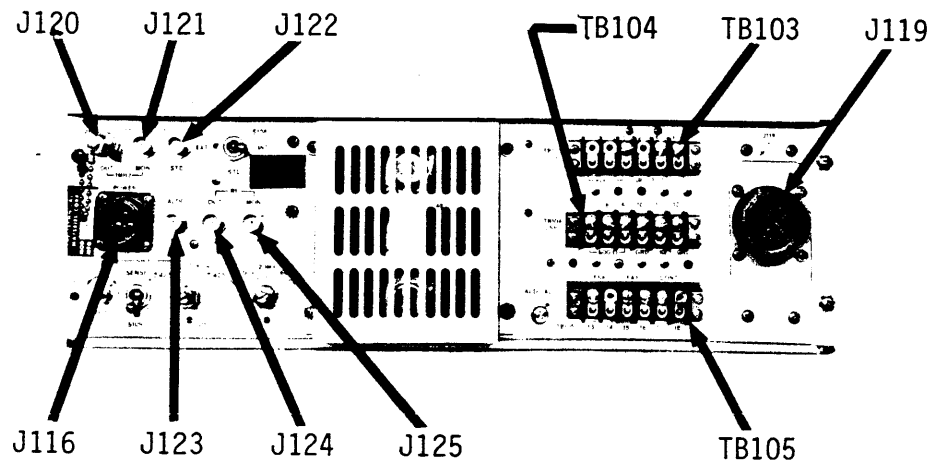

Figure 2-3. Exciter rear panel connections
2.5.1 All electrical connections between the exciter and associated transmitter or interface equipment are made at the rear panel. Figure 2-3 illustrates all rear panel connections. Table 2-1 lists the panel designations and functions of the connections.
(See Figure 2-3)